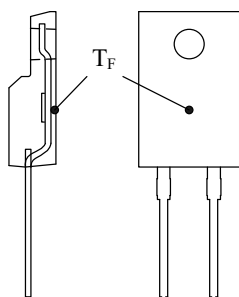
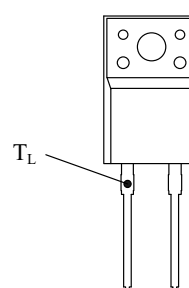

Figure 1. T_F Measurement Point
Figure 2. T_L Measurement Point
(1) $R_{th(J-F)}$ is thermal resistance between junction and the flame. T_F is the flame temperature ($^{\circ}\text{C}$), measured at the point defined in Figure 1.
(2) $R_{th(J-L)}$ is thermal resistance between junction and the lead. T_L is the cathode lead temperature ($^{\circ}\text{C}$), measured at the point defined in Figure 2.
The measurement points of T_F and T_C are defined in Figure 1 and Figure 2.